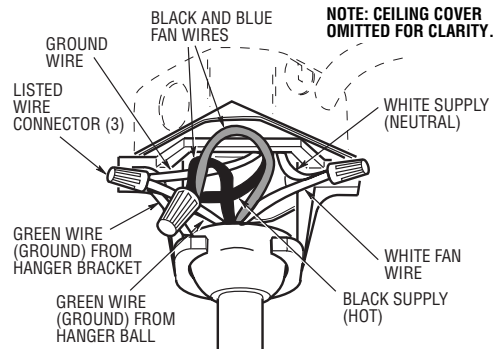

Figure 12
- 1. Connect the green grounding lead from the hanger ball and the green grounding lead from the hanger bracket to the grounding conductor of supply (this may be a bare wire or wire with green colored insulation). Securely connect wires using wire connectors supplied (Figure 12).
- 2. Securely connect the fan motor white wire to the supply white (neutral) wire using wire connector supplied (Figure 12). Securely connect the fan motor black wire and blue wire to the supply black (hot) wire using wire connector supplied (Figure 12). After connections have been made, turn leads upward and carefully push leads into the outlet box, with the white and green leads on one side of the outlet box and the black and blue leads on the other side of the outlet box.